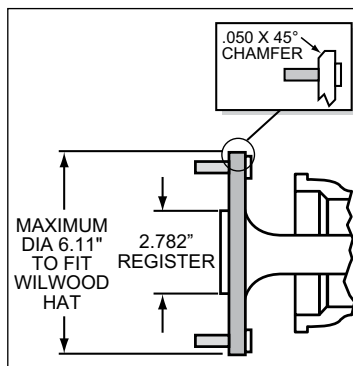

Figure 3. Axle Flange
- Axle center register diameter is 2.80", Figure 3. This kit uses Wilwood's removable center register adapters. Rotors can either be centered on the axle register, i.e. *register-centric* or centered on the wheel studs, i.e. *stud-centric*. Due to variations in wheel stud final diameters, *register-centric* centering can be a more accurate method of centering the rotor to the axle. Wilwood offers various diameter adapters for purchase in addition to the ones supplied in this kit, see Table 1.
- Maximum axle flange diameter must be no larger than 6.11" w/.050" x 45° chamfer (see Figure 3).